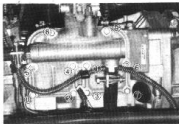

Fig. 3-22
2. Tighten the inlet manifold fitting nuts in the order as shown in the Fig. 3-22.